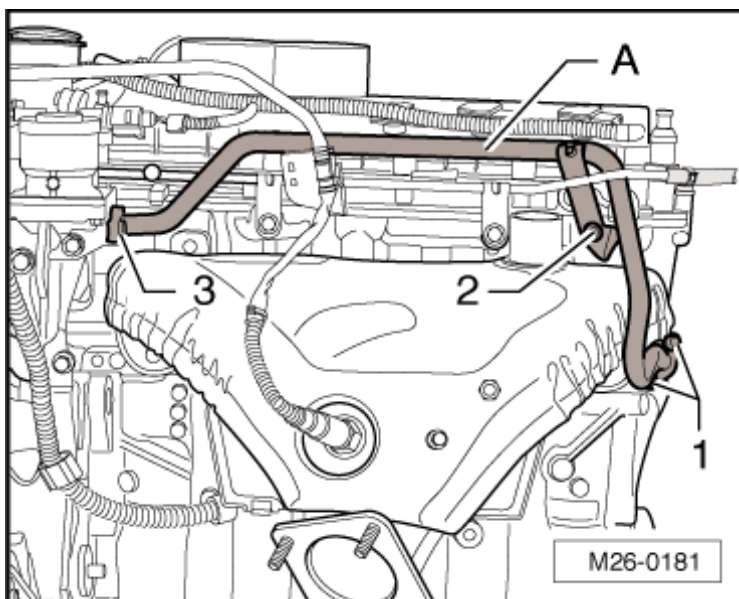

Fig. 23: Identifying Connecting Tube - Tightening Sequence
-- Observe the tightening sequence when installing the AIR pipe -A-. Refer to **Fig. 23**.